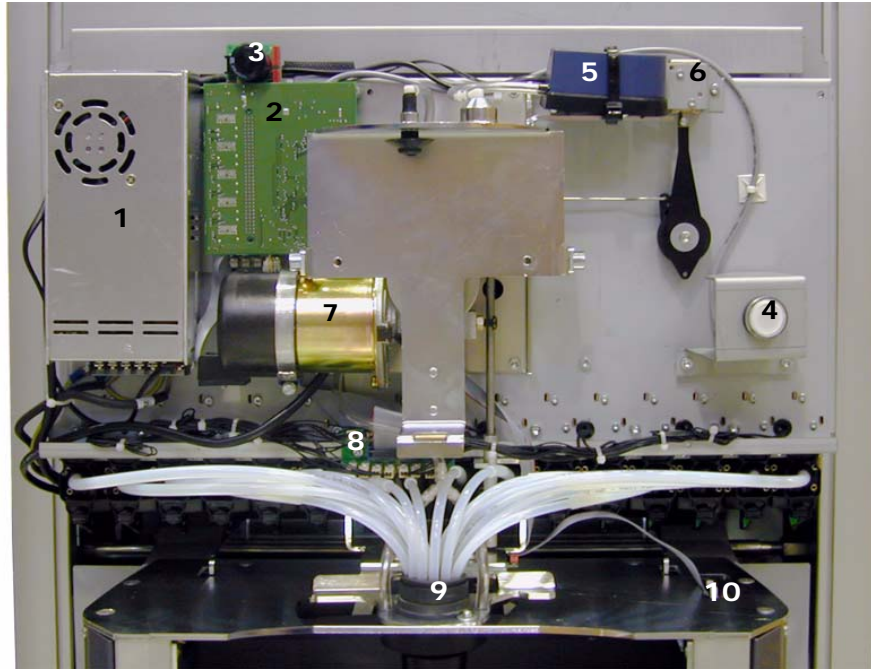

Figure 5: COROB™ D300's dispensing module is behind the front cover.
The COROB™ D300 has three interface boards: A, B and C. The boards A and B are for controlling solenoids. The solenoid board A that controls the valves is in front of the dispensing module, in the lower part of it, see number 8 in figure 5. The other solenoid board, board B, is in the solenoid rail assy behind the dispensing module, see figure 9. The pump or the pumps that are going to dispense are selected with this board.
The locations of the sensor boards are marked in figure 71 on page 32. The cable interface is on top of the can table, see number 10 in figure 5 on page 4.
- one solenoid controls opening and closing of the humidifier cap. This solenoid is beside the air pump in the dispensing module, number six in figure 5.
location: in front of the machine, see figure 5 on page 4.